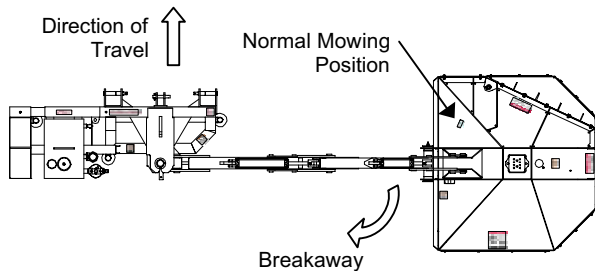

Figure 3
If you “ground” the cutterhead and the booms begin to break back, simply lift the boom slightly to free the cutterhead, then swing the boom back into normal cutting position. See figure 3.
*You must allow for the extra boom travel when mowing in reverse. See figure 3. If you have any questions about these instructions, please ask your local Hardee dealer immediately! Warranty claims for equipment used improperly will not be accepted.*